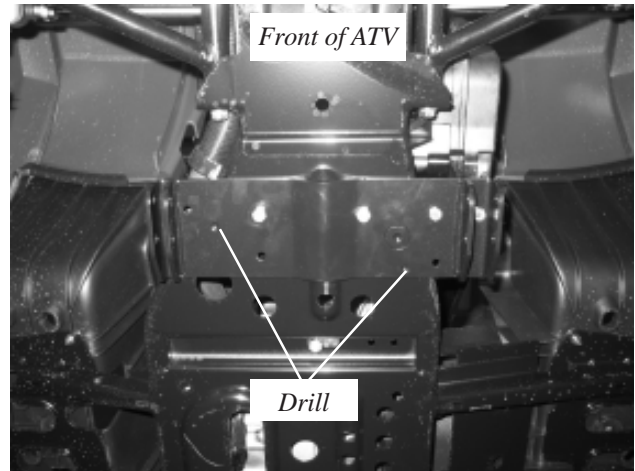

Figure 3
2. Drill holes indicated in Figure 3, using 1/4" drill bit.